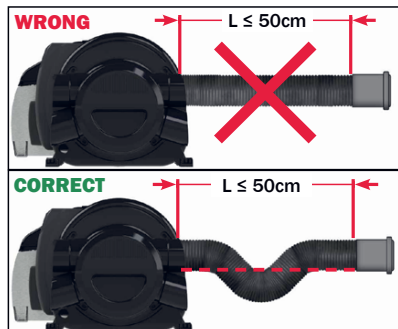

Figure 11
- If the duct length is less than 50cm, form a U-shaped trap near the air outlet (Figure 11) to prevent unwanted interior heating when the system is only in hot water mode.